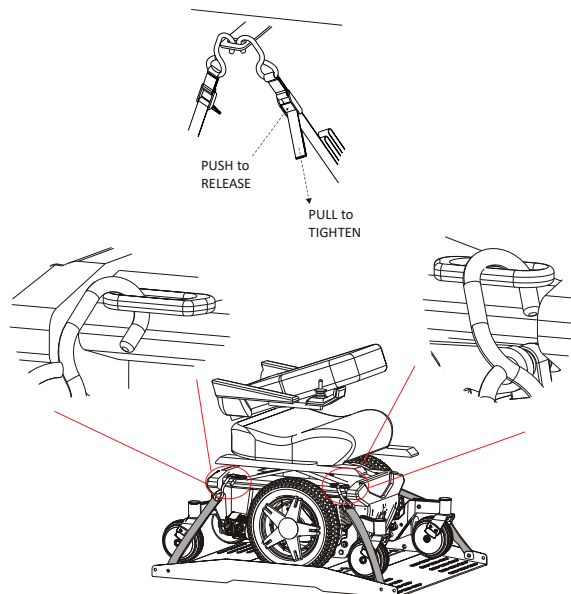

Figure 3-4
2. Pull the loose end of each strap tight. To release, simply press the release tab on the cambuckle, pull and remove the hooks. **See Figure 3-4.**